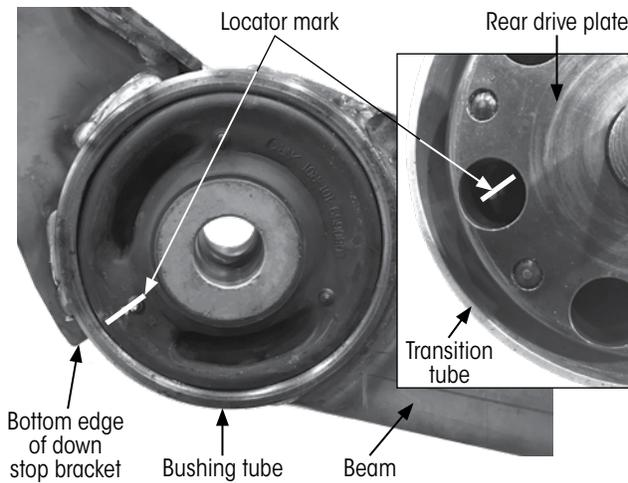

Figure 43: QF I locator mark and orientation
- ii. As shown in Figure 43, the QF I bushing is rotated to align the locator mark with the bottom edge of down stop bracket. The locator mark can also be seen through the hole in the rear drive plate while in the transition tube.